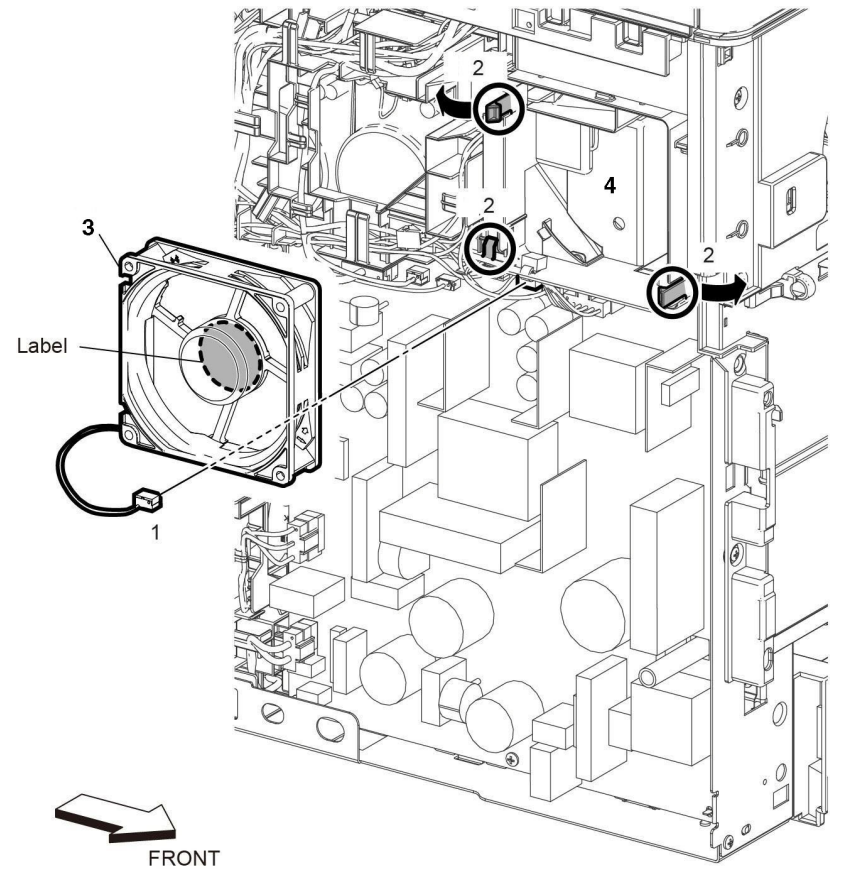

Figure 1 Main fan removal
6. Remove the main fan, Figure 1:
- b. Release three hooks (2) attaching the main fan (3) to the main fan duct (4), then remove the fan (3).